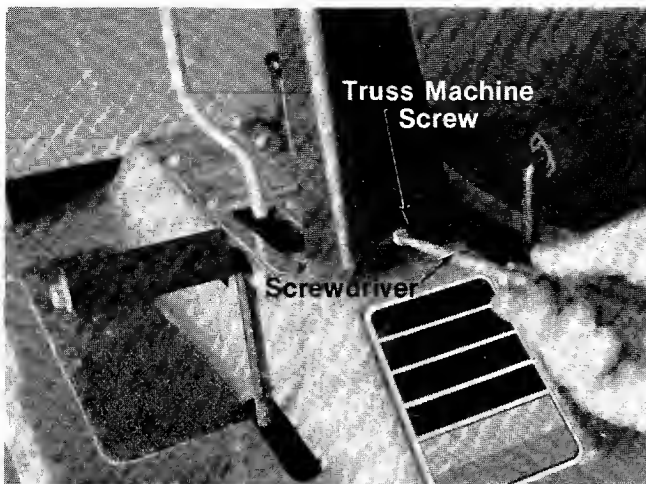

FIGURE 4.
7. Secure cover to support bracket with two truss machine screws provided. See figure 4.